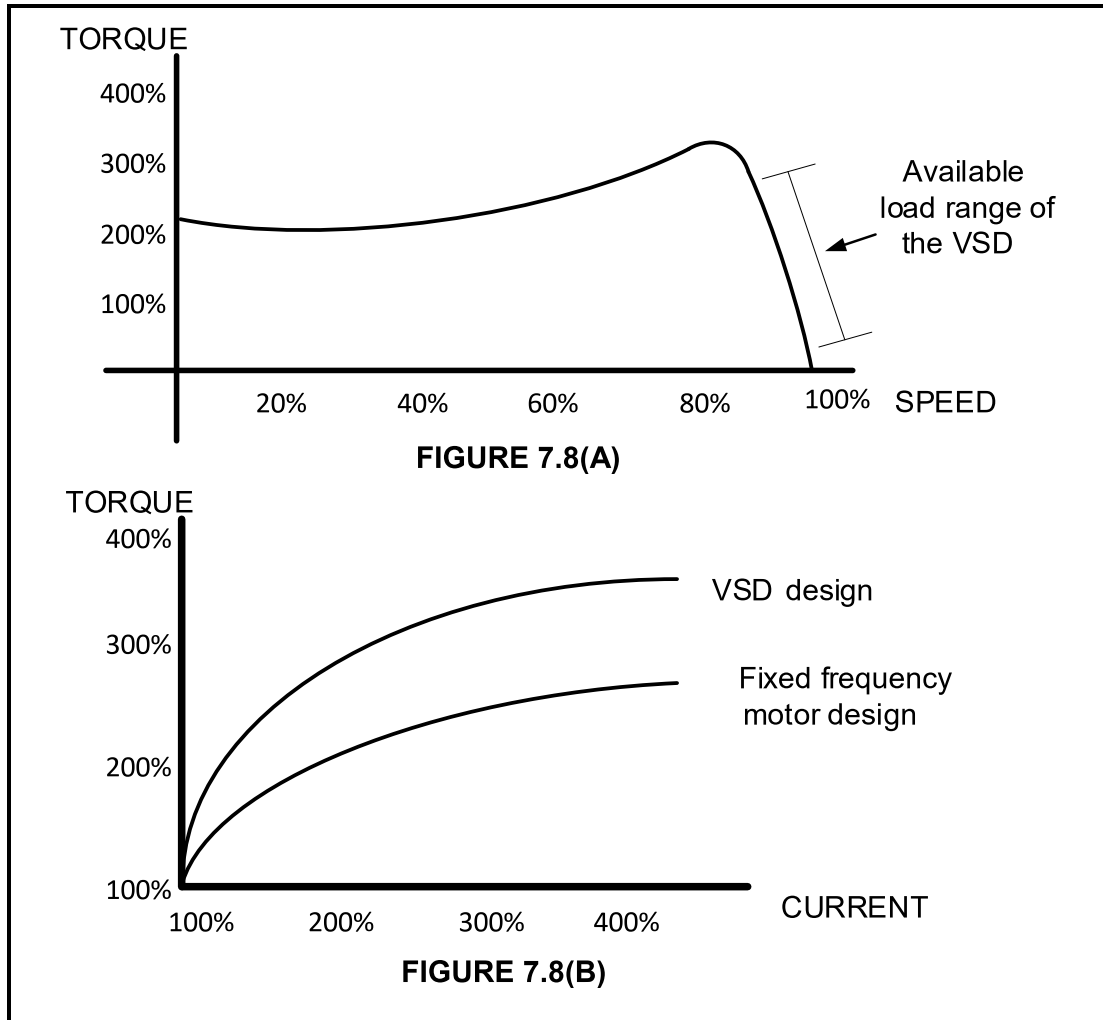

FIGURE 7.8: VSD TORQUE VERSUS SPEED AND TORQUE VERSUS CURRENT GRAPHS
- 7.8 FIGURE 7.8 below shows the characteristic curves of the VSD when it is used to control the speed of a three-phase induction motor. Study the characteristic curves and answer the questions that follow.
- 7.8.1 Compare the characteristics in FIGURE 7.8(B) above and state the improvement a VSD motor design has compared to a fixed frequency motor design. (2)
- 7.8.2 Refer to FIGURES 7.8(A) and 7.8(B) above and state TWO advantages for industries and manufacturers when using a VSD to control the speed of a motor. (2)